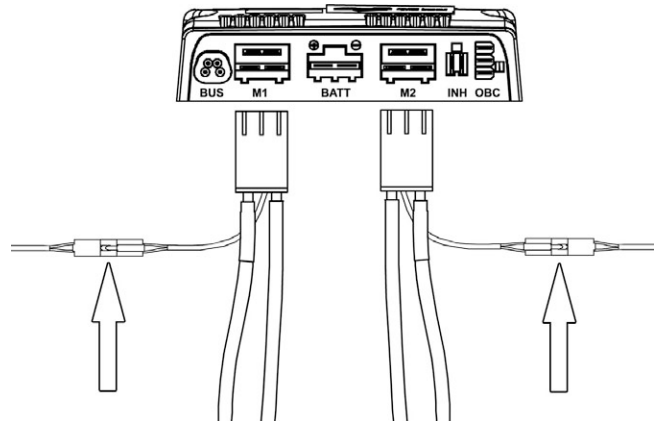

Figure 62. The connectors of the magnetic wheel locks.
4. Disconnect the magnetic wheel lock at the connector on the cable. See fig. 62.